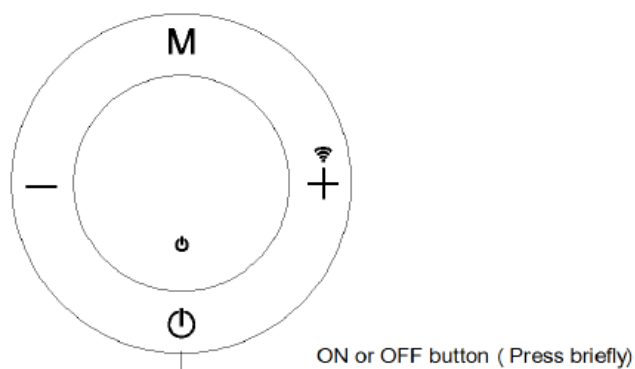
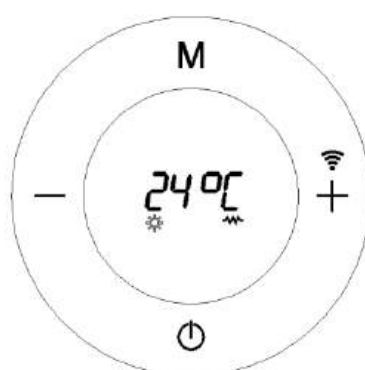

Fig.9
Fig.10
Press  (**Fig 9**), the appliance will go on and one of the following modes will be **displayed** (**Fig 10, Fig.11, Fig 12, Fig 12, Fig 13**):
**Comfort Mode. (Fig.10)**